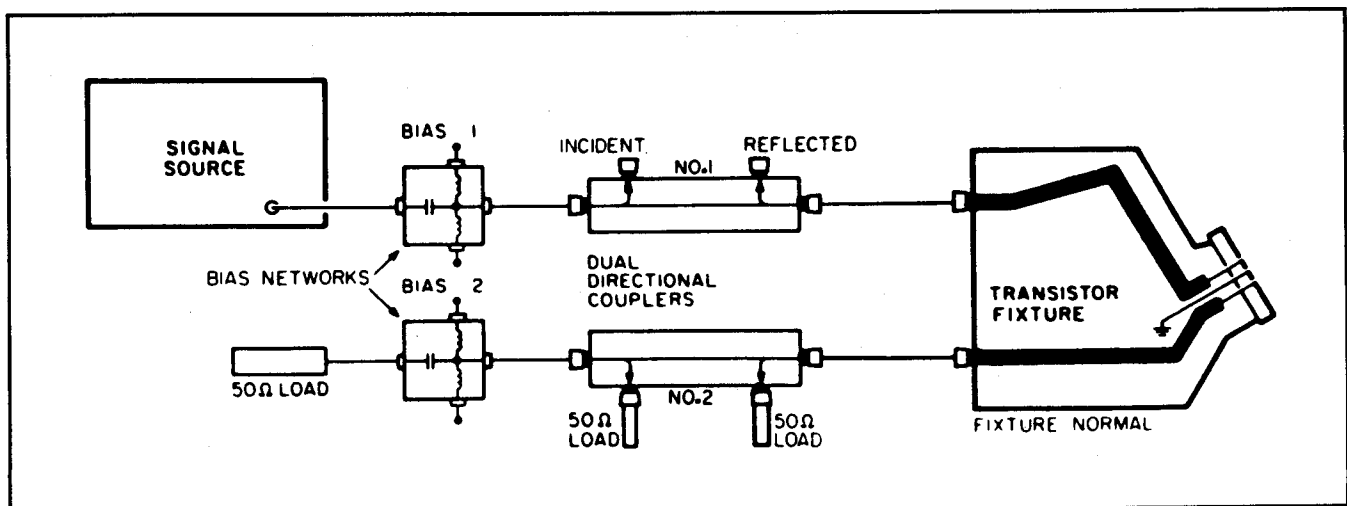

Figure 2. Typical Measurement Set-up
26. Figure 2 shows the HP 11590B bias network connected in a typical measurement set-up. Many other applications are possible but not shown because the general method of set-up and operation is the same.